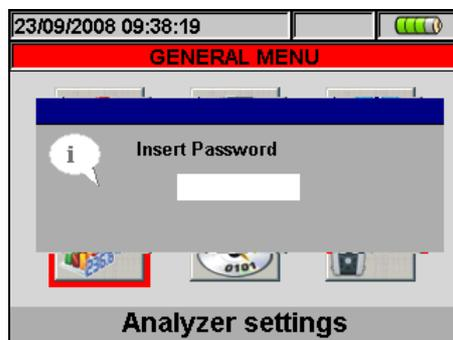

Fig. 13: Insert Password screen
5. If a wrong password is fitted or if more of 10s elapse, the meter will give the warning message “Wrong Password” and it’s necessary to repeat the operation. As soon as the correct password is fitted, the meter will stop immediately the recording running and the correspondent icon at display (see Fig. 13) will disappear.